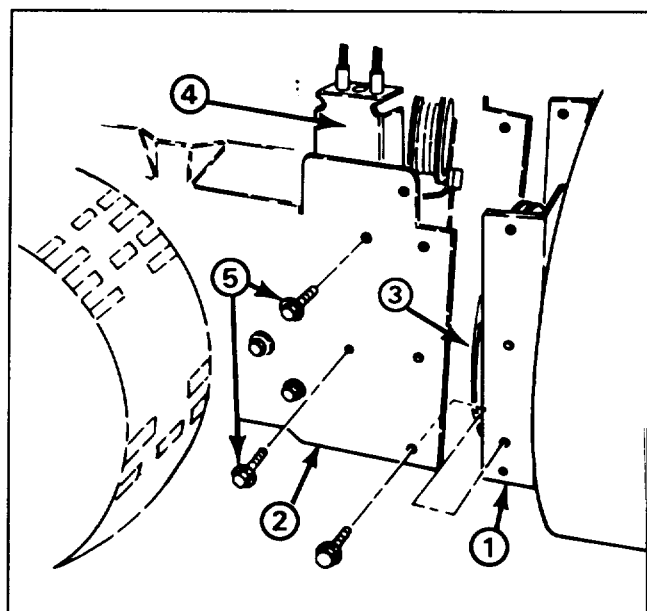

Figure 1
1. Remove (2) flange head capscrews securing idler pulley assembly to engine frame. Remove idler pulley assembly.
- Align auger housing and engine frame mounting holes (Fig. 1).
- Secure auger housing to engine frame with (6) 5/16-18x5/8" lg. flange head capscrews.